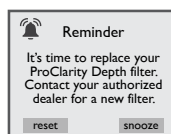

Figure 15.0e
21. ProClarity Depth Filter Reminder: This message will appear when the filter reminder time has expired (Figure 15.0e). The ProClarity Depth filter must be replaced.